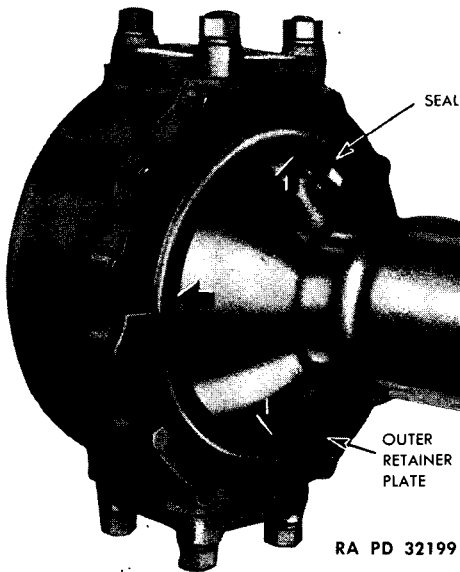

Figure 10—Installing Outer End Seal
- (9) **INSTALL SEALS, GASKETS AND RETAINER** (fig. 10).